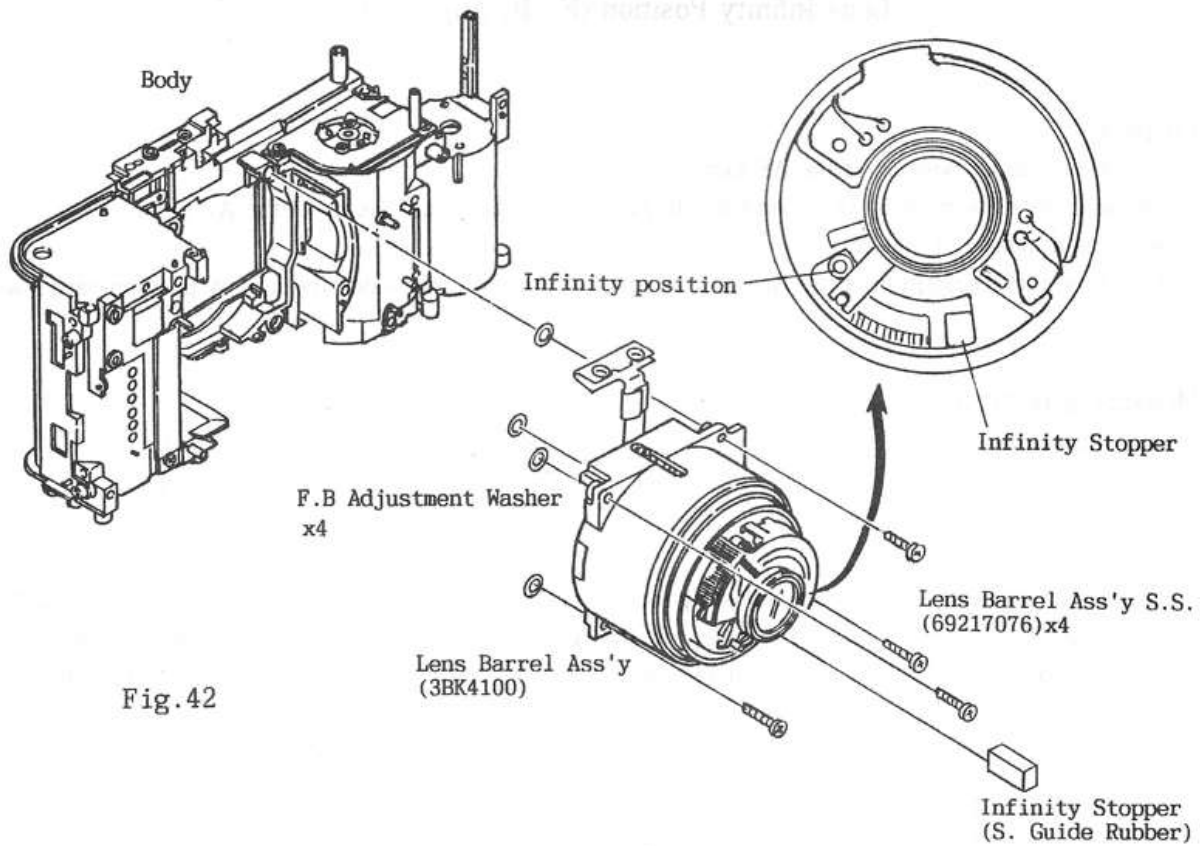
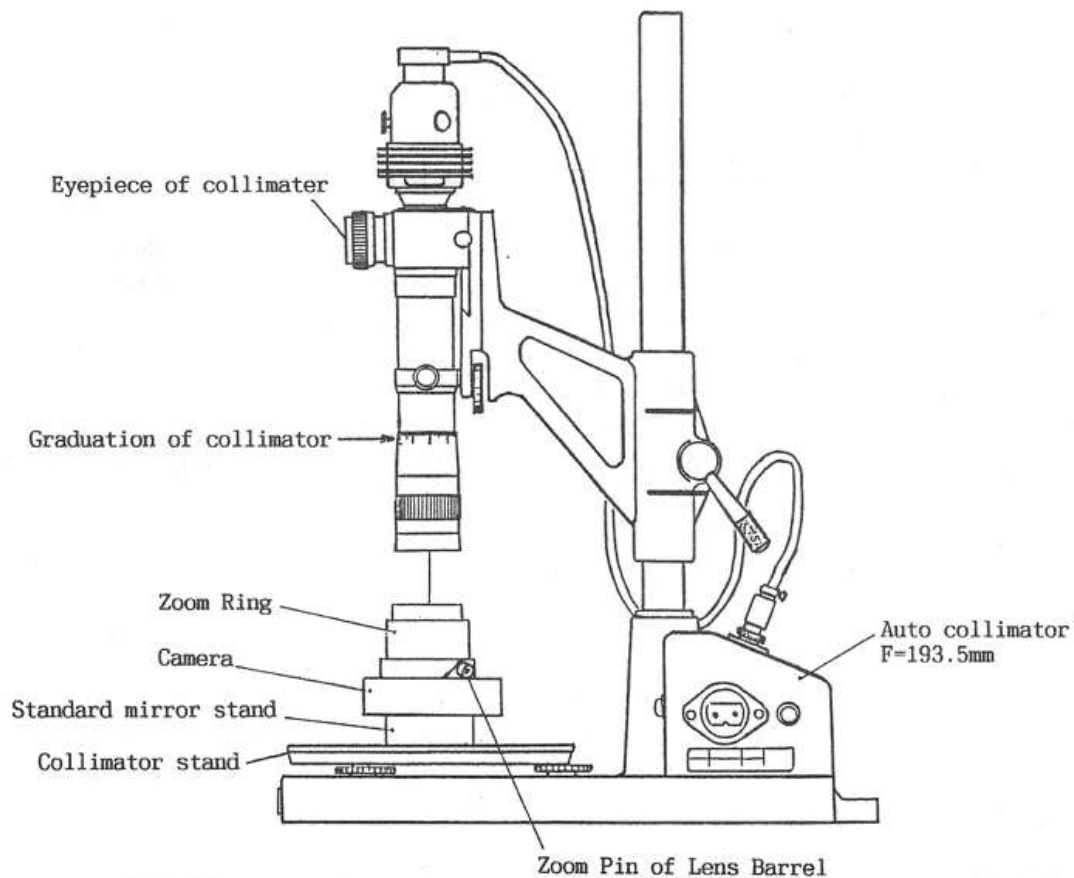

Fig.42
Fig.43
- ① Place the F.B Adjustment Washers (t:0.40) (60141810) \times 4 between the Body and the Lens Barrel Ass'y and tighten the Lens Barrel Setscrews (69217076) \times 4.
- ② Remove gently the Infinity Stopper (S.Guide Rubber) installed in the Shutter. (See Fig. 42)
- ③ Set the camera on the standard mirror stand and set them on the collimator stand.
- ④ Move the Zoom Pin of the Lens Barrel and set the Zoom in the TELE position. (See Fig. 43)